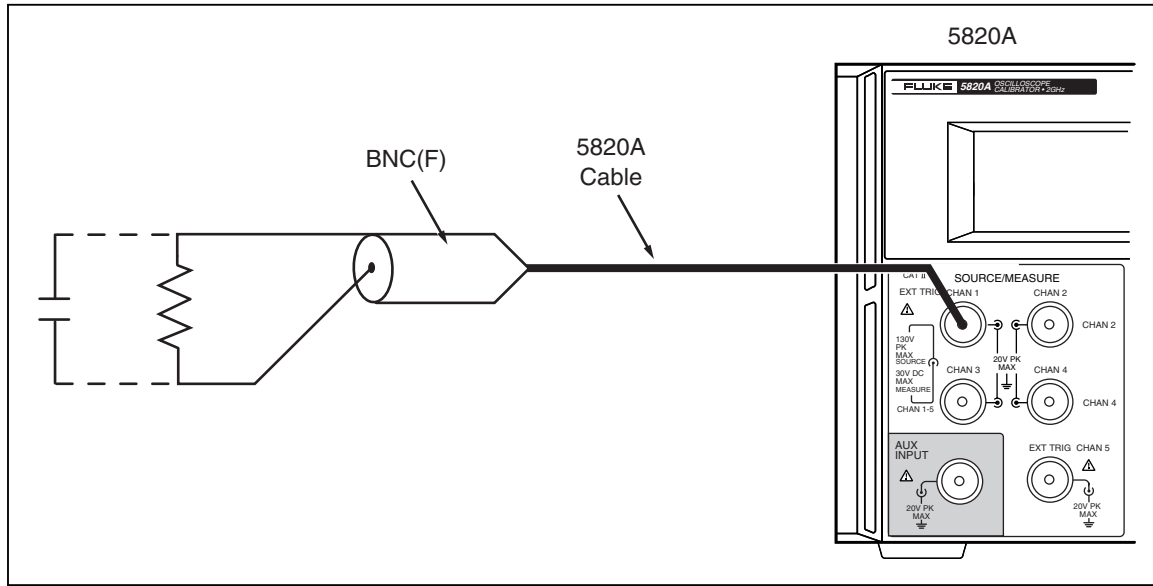

Figure 3-4. Setup for MeasZ Calibration
1. Connect the N to BNC cable to the SCOPE connector. Connect the other end of the N to BNC cable to the BNC(f) connector attached to the 40 Ω resistance. Refer to Figure 3-4 for the proper equipment connections.